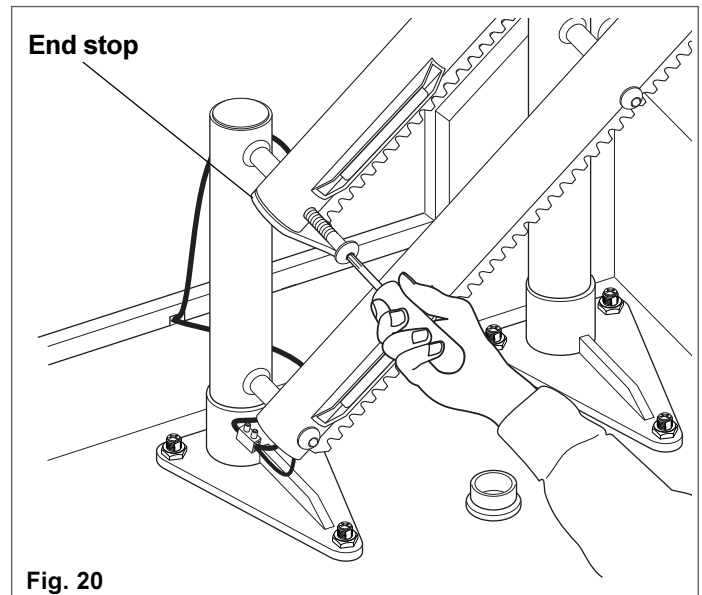

Fig. 20
- 6 Fit the track end stop. Fit the top rail screw, taking care not to damage the charge contact loom (Fig. 20) during this process.